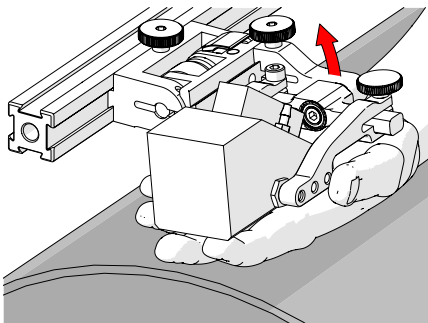

Fig. 109 - Lift to latched position
1. Ensure probe holder is in latched, upper position (Fig. 109). If the probe holder is already latched, it will only move within the slip joint adjustment range and have no spring tension.
1. Ensure the probe holder is in the upright latched position (Fig. 109).